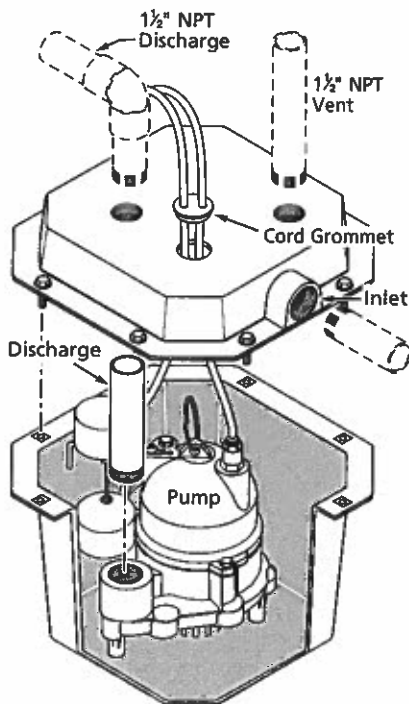

Figure 6
Step 8 (See Figure 6)
Step 9 (See Figure 6)